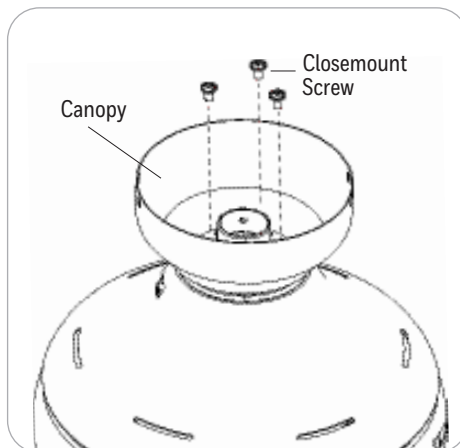

Figure 4.2
2. Remove three Phillips-head closemount screws from the top of the motor assembly. Align the canopy with the holes in the top of the motor assembly, then re-install the Phillips-head closemount screws to secure the canopy to the top of the motor assembly (Figure 4.2).